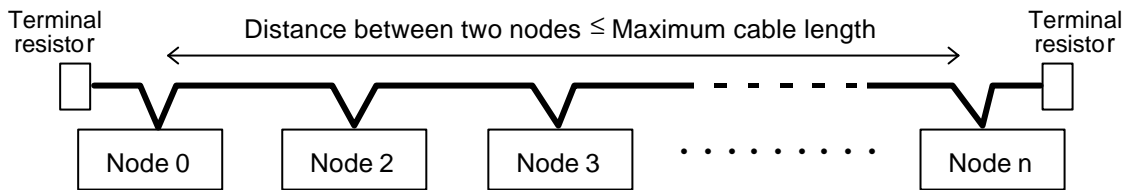

Figure 1.5 Distance Between Two Nodes on a Network With No Drop Line
a) Table 1.2 lists the maximum cable length for the case that the trunk line consists of a Thick Cable alone and no drop line is connected on it (that is, all nodes are connected on the trunk line), as shown in Figure 1.5. In this case, "maximum trunk line length between node 0 and node n" = "maximum cable length."